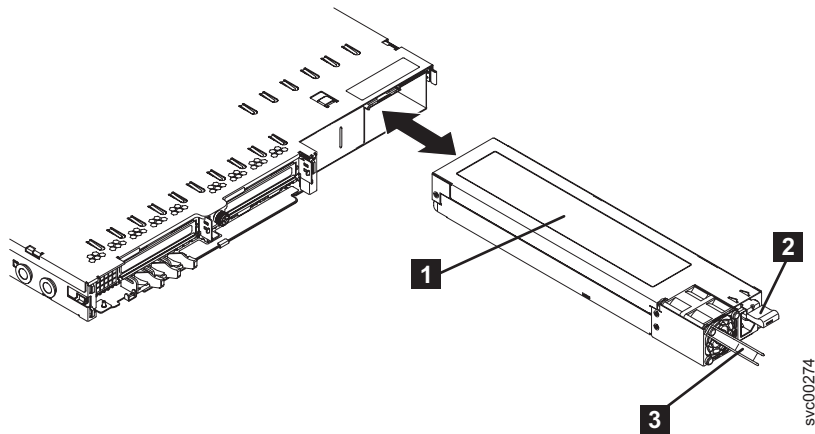

Figure 123. Removing the SAN Volume Controller 2145-8G4 power supply
3. Press and hold down the orange release tab **2**, which is shown in Figure 123 on page 138, and pull the power supply out of the node.